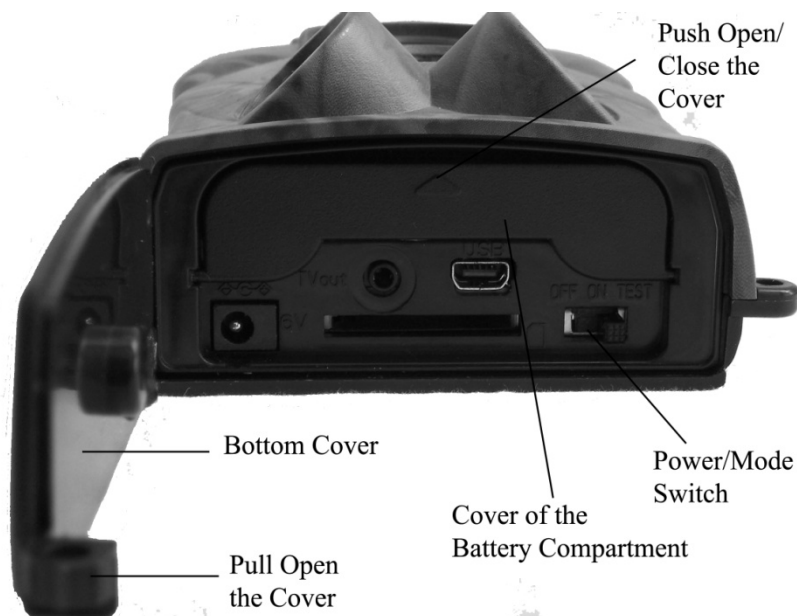

Figure 1.2: Bottom View of Ltl-5210M
- Figure 1.2 shows the bottom view of the camera (Part # Ltl-5210M)